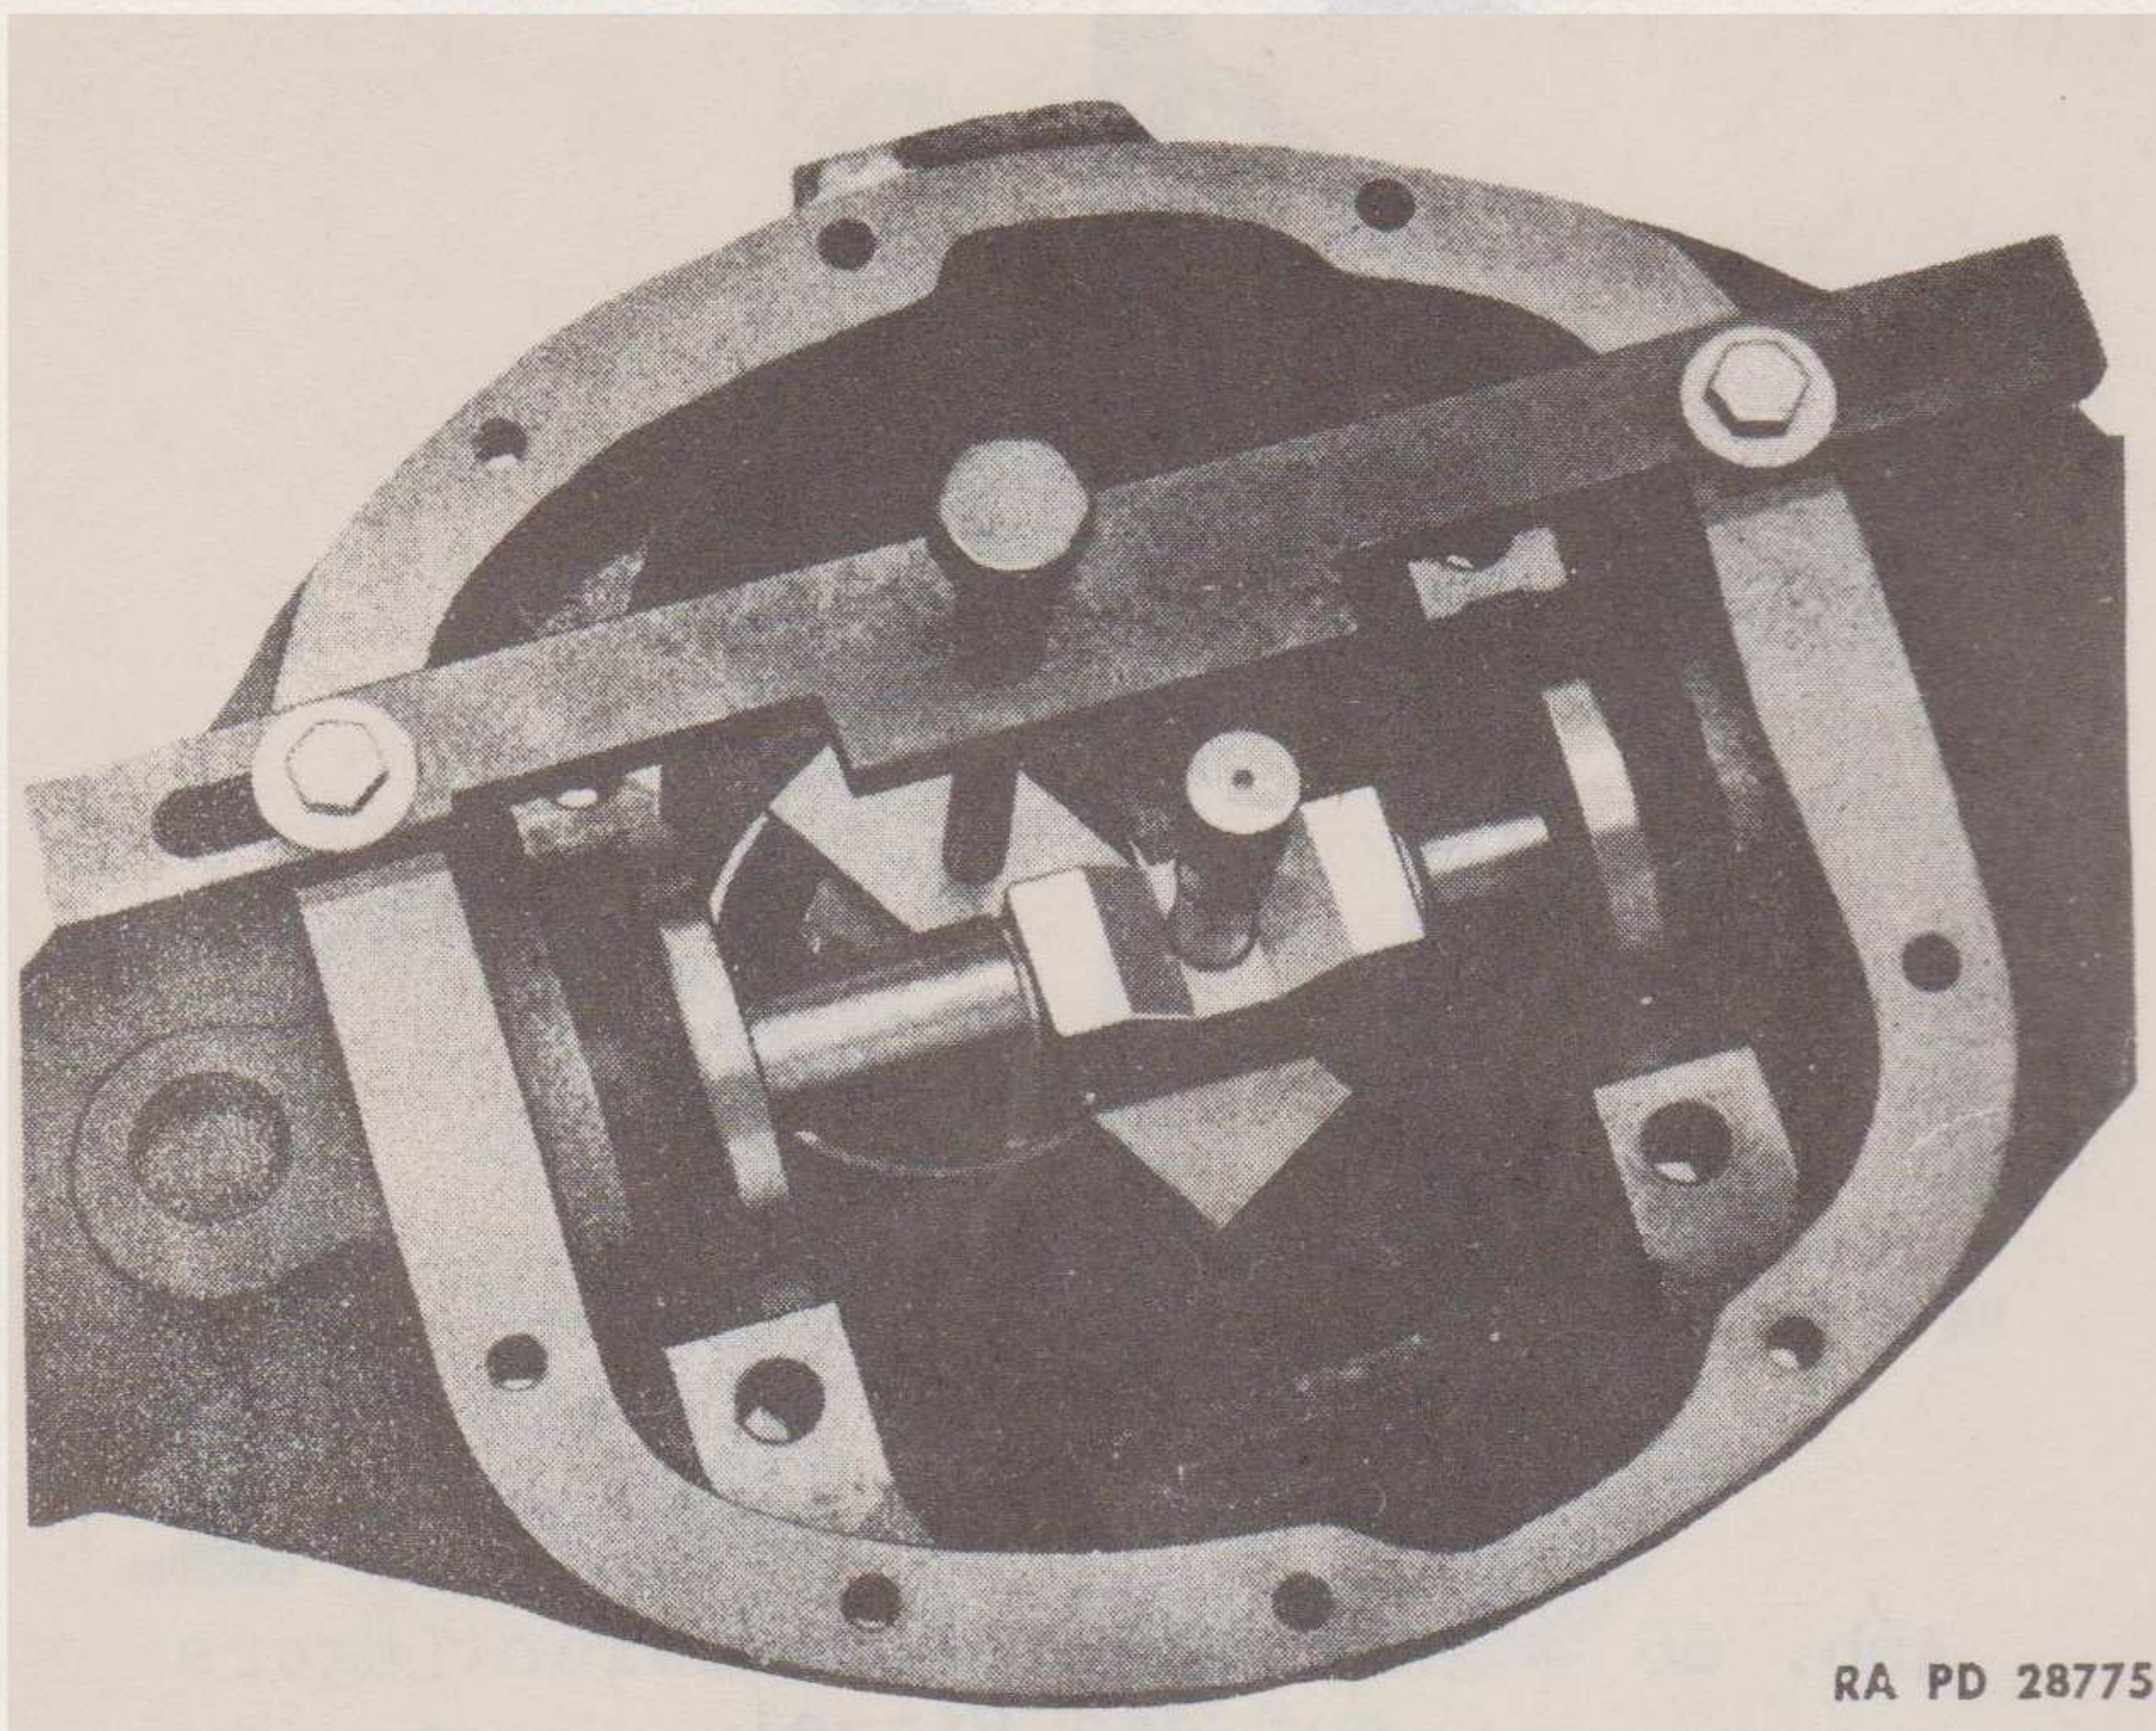

Figure 67 — Checking Pinion in Differential Housing With Gage 41-G-176
b. **Adjust Pinion in Housing** (fig. 67). Place the pinion in the differential housing. Install the 41-G-176 gage to check the setting from the back face of the pinion to the center line of the differential case bearing. The standard setting is 0.719 inch. If the gage reading is more than 0.179 inch, shims will have to be added to the inner bearing cup (par. 25 b (1) (c)). If the gage reading is less than 0.719 inch, shims will have to be removed from the inner bearing cup (par. 25 b (1) (c)).